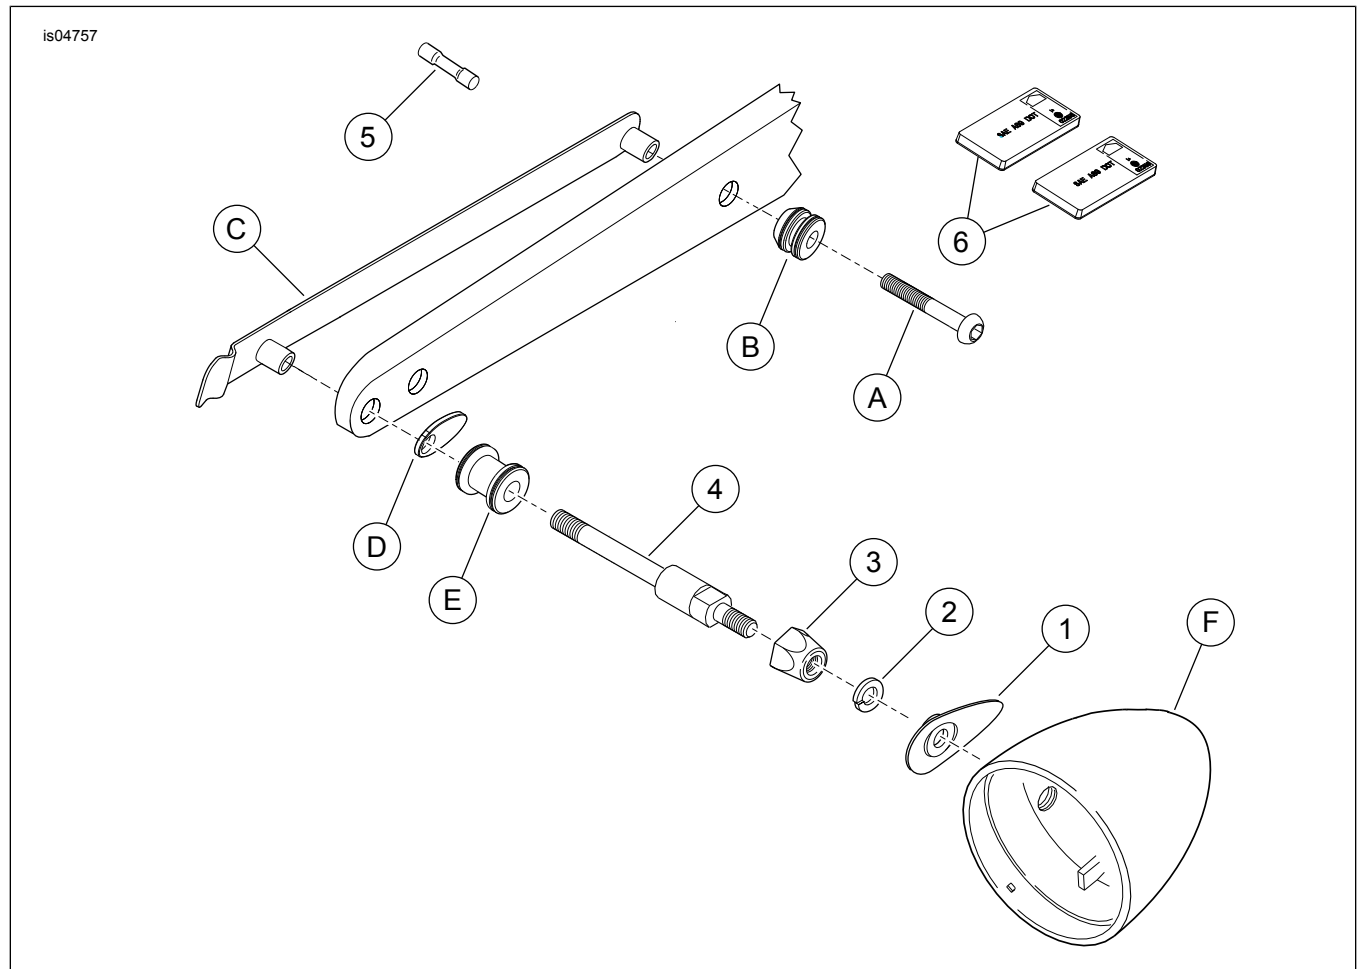

Figure 3. Service Parts: FXD Directional Relocation Kit
See Figure 3 and Table 1.
1. See Figure 3. Place the rear docking point (E) and recess cover (D) over the long threaded end of the new turn signal stalk (4) with the countersunk side of docking point facing outward.
2. Insert the turn signal stalk (4) through the rear mounting hole in the fender support and fender. Apply Loctite® 243 (blue) to the stalk and thread into fender mounting bracket.
4. Loosely install a jam nut (3) and a lockwasher (2) onto the short threaded end of the turn signal stalk (4).
5. Place the recess cover (1) into position over the recess on the turn signal housing. Insert the wires from the socket through the grommet into the turn signal housing, through the threaded hole and the recess cover, and into the turn signal stalk (4).
8. See Figure 3. Remove adhesive backing from reflector (6) and center the reflector along the bottom edge of sideplate. Apply reflector and hold in position for 30 seconds. Repeat for other sideplate.